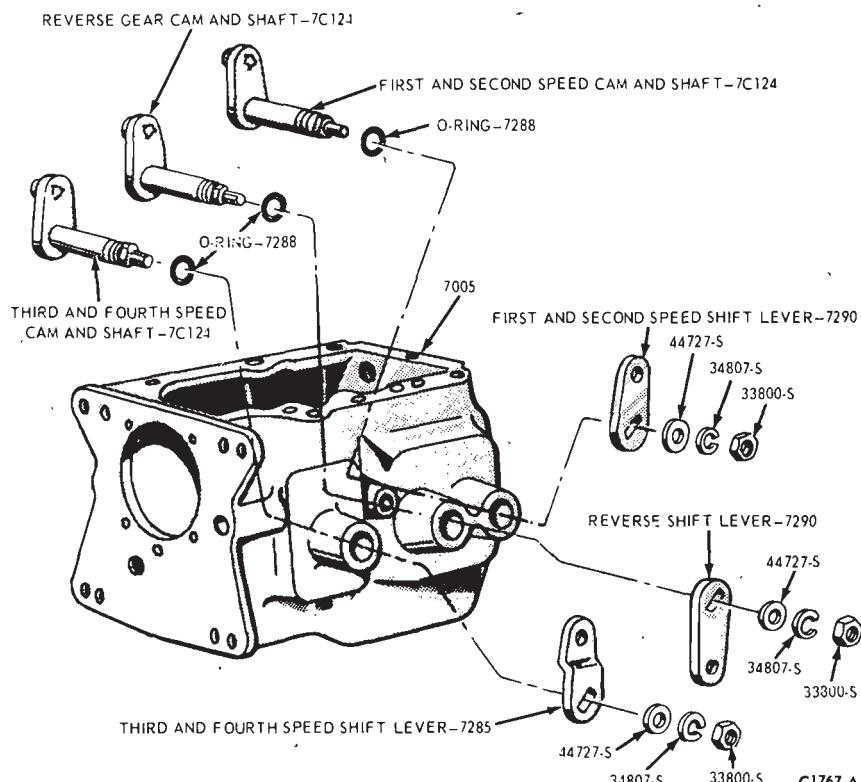

FIG. 14—Cam and Shafts and Shift Levers Disassembled
3. Remove and discard the O-ring from each cam and shaft (Fig. 14).